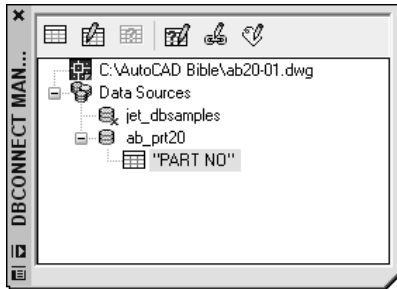

Figure 20-8: Displaying a database table in the dbConnect Manager window.
1. Ab20-01.dwg should still be open from the previous exercise. If there's a plus sign next to ab20-prt, click it to display the "PART NO" table. The dbConnect window should look similar to Figure 20-8.